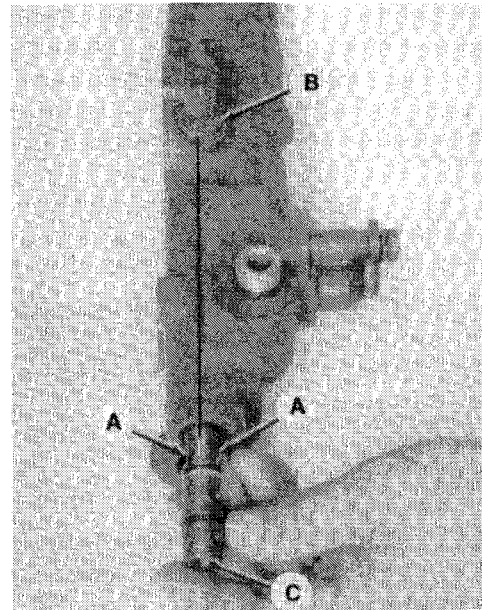

Fig. 239—When reinstalling pressure regulator valve sleeve (C), position sleeve so pressure inlet holes (A) are not aligned with seat valve inlet port (B).
Dip all parts in clean hydraulic oil during reassembly. When installing pressure regulator valve sleeve (C—Fig. 239), make certain pressure inlet holes (A) are NOT in line with inlet port (B) on early models. Later models have a drill mark on end of sleeve (C) which should be in line with inlet port (B) when